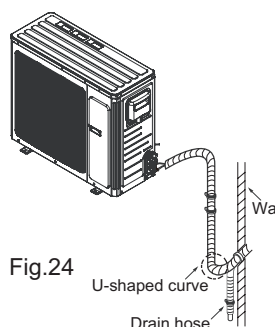

Fig.24
- (1) The pipes should be placed along the wall, bent reasonably and hidden possibly. Min. semidiameter of bending the pipe is 3.94inch.
- (2) If the outdoor unit is higher than the wall hole, you must set a U-shaped curve in the pipe before pipe goes into the room, in order to prevent rain from getting into the room.(As show in Fig.24)